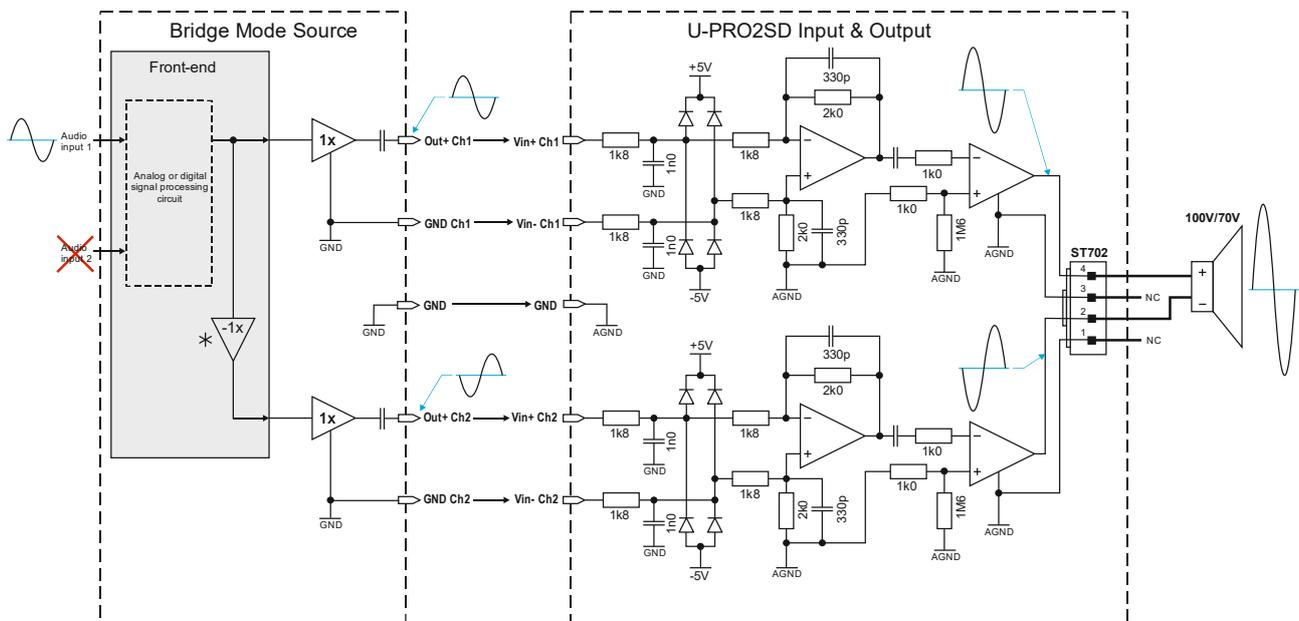

Figure 5-4: U-PRO2SD Amplifier module shown in Bridge Tied Load (BTL) configuration driving one 100V/70V line
**NOTICE** The \* marking in Figure 5-4, indicates that input for channel 2 must be inverted in the Front End to produce the negative swing of the bridge tied output.